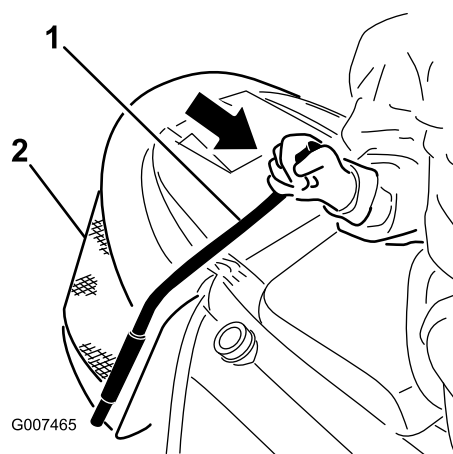

Figure 15
- Pull the collector rod forward to tilt the collection bin (Figure 15).